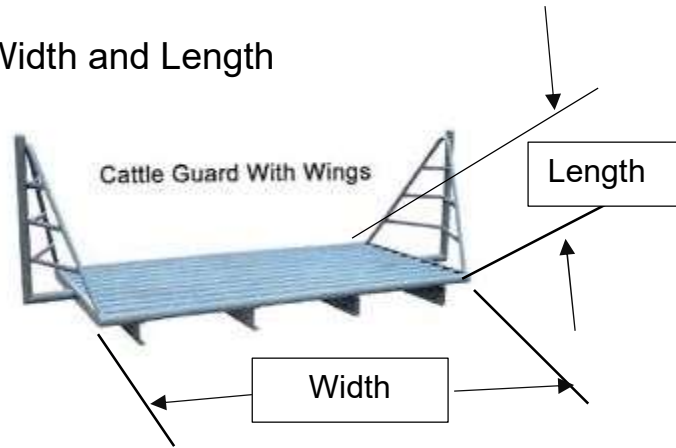

Figure 1 Cattle Guard with Wings
Width should be large enough to accommodate the vehicles that will use guard. Normally on farms, trucks and tractors will pull trailers over the guard. These vehicles are wider than the normal Pickup Truck. The minimum width of should be 9 to 10 feet. Some guards also have gates to keep vehicles from entering. Those guards that have double gates could be 18 to 20 feet Wide. Extra wide guards will need more than the 4 beams shown in Figure 1. Gates may be over the cattle guard, usually at midpoint of the length but some may be before or after crossing the guard.
Wings and Gates - The wings shown in Figure 1 allows for extra width of trailer and truck beds to use the guard, in essence increasing the usable width of the guard. Wings also helps to prevent animals from trying to jump or get around end post.
- A. **Beam Structural Types** – The most common structural steel type beams used to support the runners for these kinds of cattle guard are, I Beam (most common), Channel, Pipe and T Beams. Which Structural Steel to use is primarily determined by load requirements on the beam – (weight of the vehicle using the Cattle Guard) Soil types and drainage also contribute to determining support necessary. Knowing load requirement one can determine the most economical and available material for selecting the beams. Channel or C Beams are shown in Figure 1